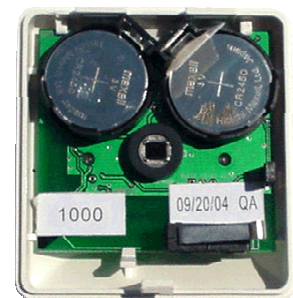

Figure 8
- 2- Route the white-white/black wire (2 core-figure 8 cable) from the main unit through the ceiling to connect with the plug pack connector. Another suitable location for the power supply is on an available power point at the rear of the fridge in the kitchen. (See Section 2.4)
- 3- Route the red-red/black wire (2 core-figure 8 cable) from the main unit through the ceiling to connect with the screamer connector. (See Section 2.3)
When you first remove the detector from the box it is not powered, although the batteries are in place. To turn the detector on, pull the piece of plastic from beneath one of the battery terminals (in the direction indicated in *figure 8*). As soon as the plastic is removed the red and green lights will flash for a few seconds.